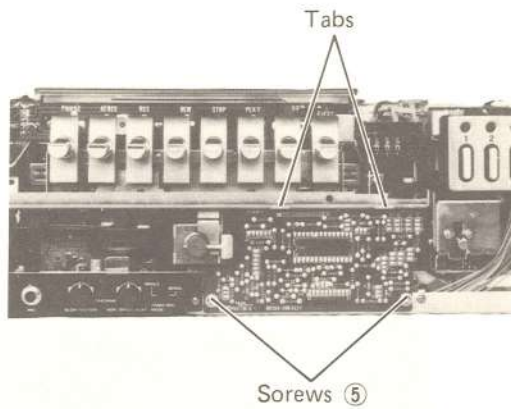

Fig. 3-12
1. Remove the two screws ⑤ on the printed circuit board as shown in Fig. 3-12.